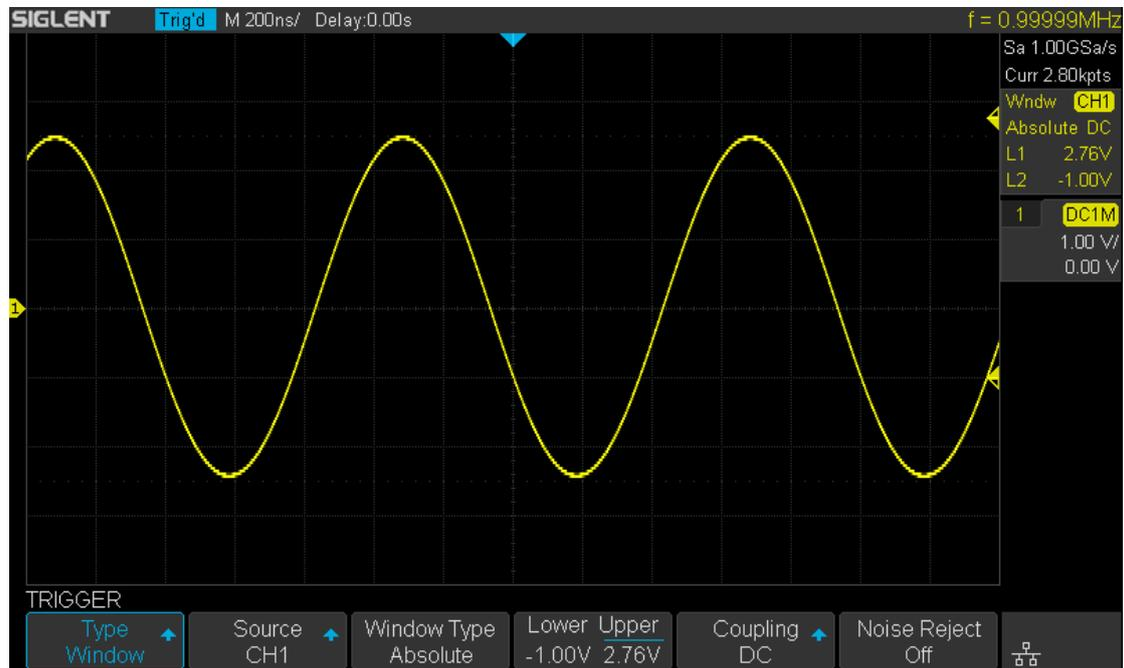

Figure 34 Absolute Window Trigger
1. Press the **Decode** key to enter the **DECODE** function menu as Figure 34 shows.